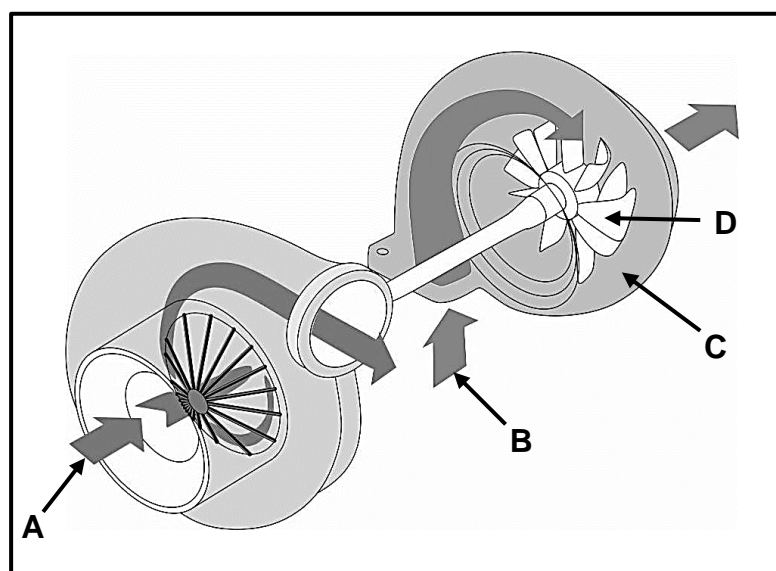

FIGURE 6.5
6.5 FIGURE 6.5 below shows a turbocharger that is fitted to an internal combustion engine. Answer the questions that follow.